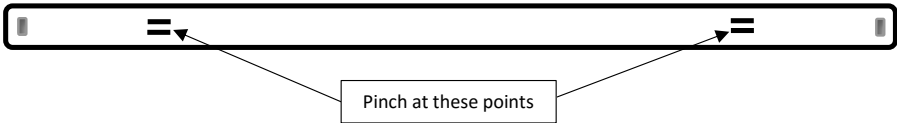

Fig 3
- Remove the gear tray by pinching the clips at the two locations (see Fig 3)